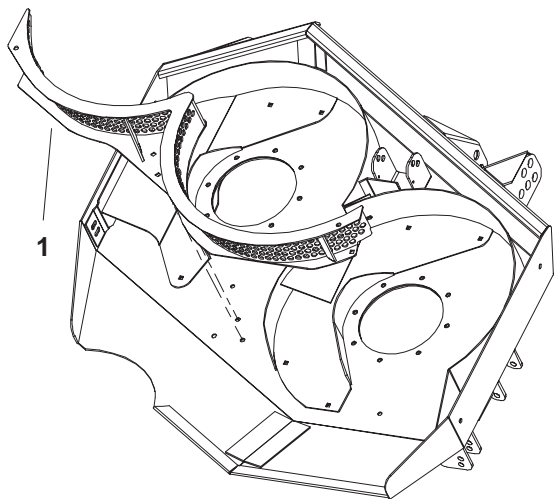

Figure 3
17. Secure the mulching screen to the deck with (4) carriage bolts and locknuts. The carriage bolts are to be installed from the bottom of the deck. Torque to 105 in-lb.
19. Repeat the procedure on the right wing deck (Fig. 3).